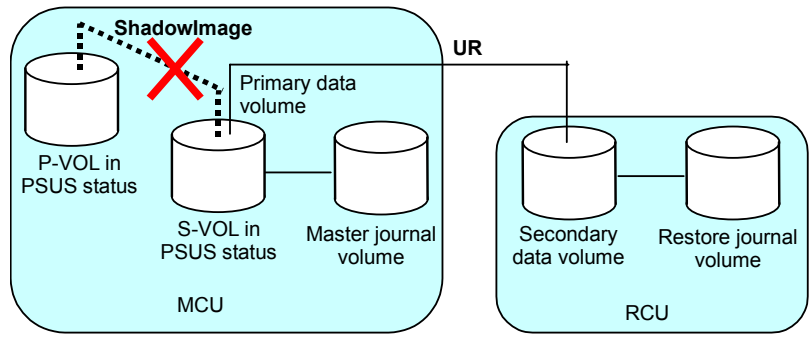

Figure 3-9 Restoring a ShadowImage P-VOL - Step 1
1. Execute the CCI **pairsplit -S** command on the ShadowImage pair to release the pair (see Figure 3-9).